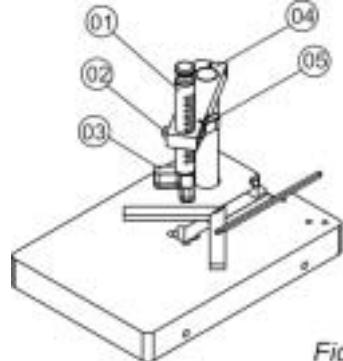

Fig. 1.1
Also its necessary to set the vertical pressure pad. Remove the screw fig. 1.1 (02), and press the button (05). Insert the bracket (01) into the upper support (04).